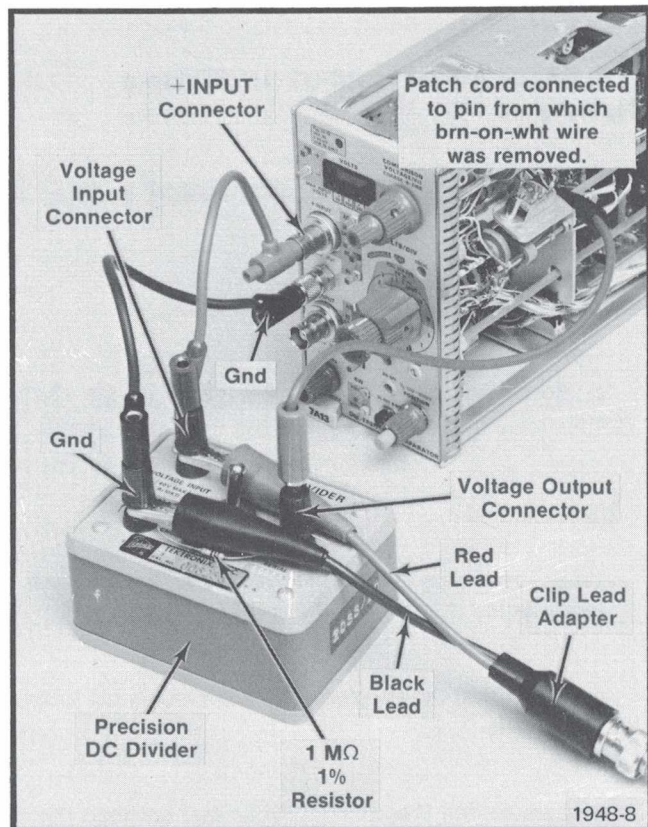

Fig. 5-7. Closeup view of the Precision DC Divider interconnections to the 7A13.
- a. Test equipment setup for this step is shown in Fig. 5-7.
- c. Connect a 6-inch patch cord from the 7A13 + INPUT connector to the Precision DC Divider Voltage Input connector (see Fig. 5-7).